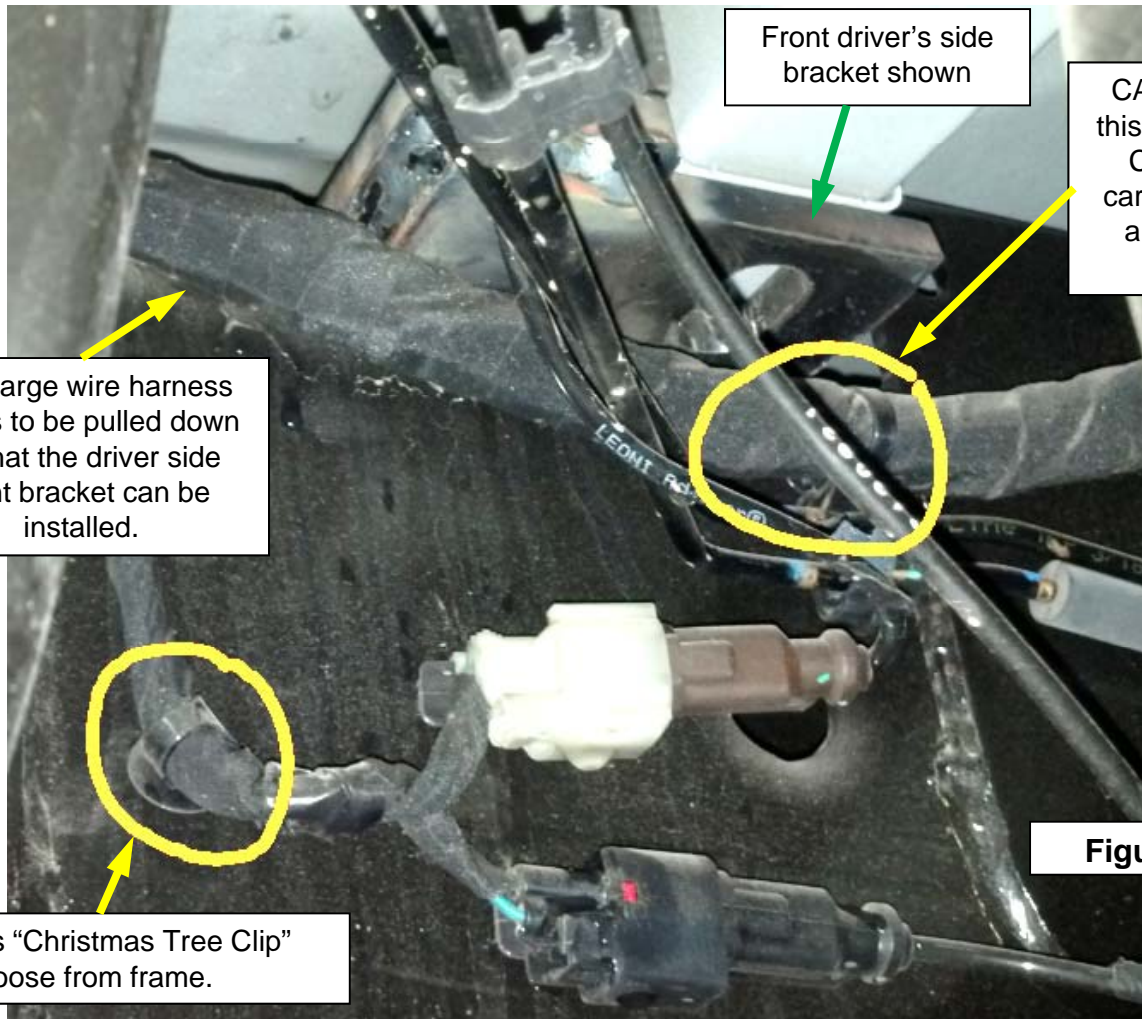

Figure 8
16. Move the hitch assembly out of the way and drill four (4) 3/16" diameter pilot holes down through the bed at the previously marked points. Drill the 2 forward holes and be sure to drill through the bottom of the bed support channel. Check under the bed where the (4) 3/16" pilot holes are and ensure that when the brackets are placed up against the frame and line up with the mounting holes. See Parts Diagram for bracket locations and Figure 8 for detail work for driver's side front bracket
See Figure 8.